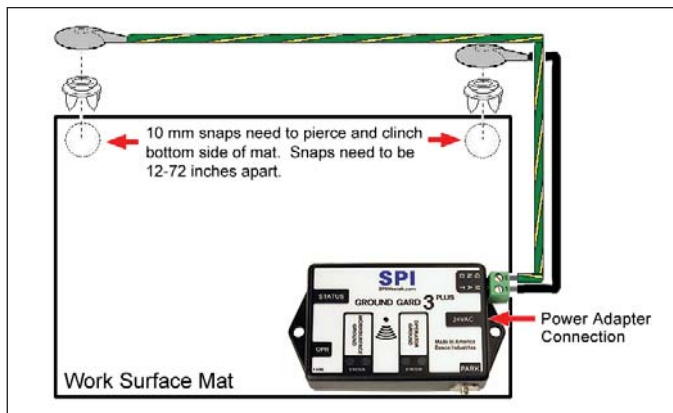

Figure 3. Installation of the Ground Gard 3 Plus
- I. The Ground Gard 3 Plus may be mounted to a convenient location using the included mounting screws or Velcro® set. See Figure 3 for installation set-up.
- The work surface resistance is measured between the two snaps installed to the mat worksurface (See Figure 3).